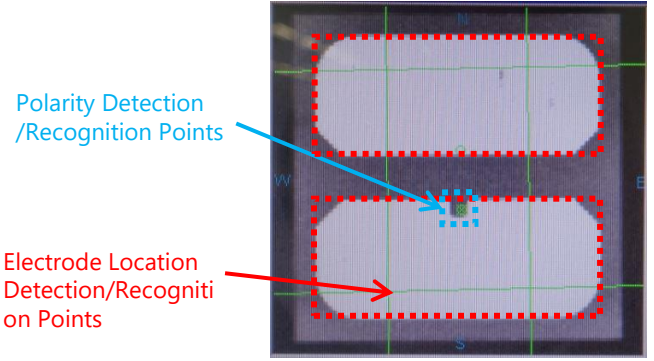

Figure 7. Imaging-based Automatic Inspection
- If an automatic polarity detector is used for the LEDs, set up the imaging device to detect the cathode mark (fig.7 Recognition Point)